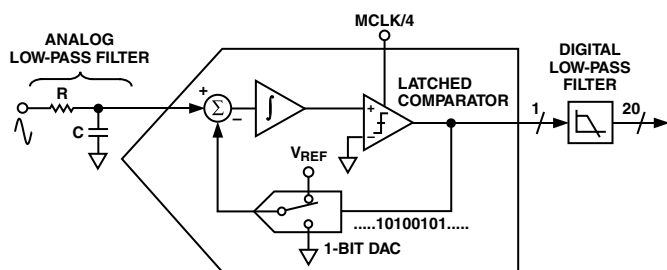
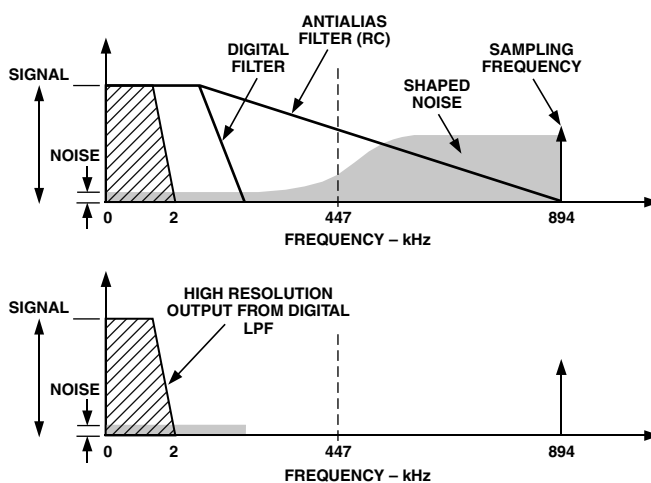
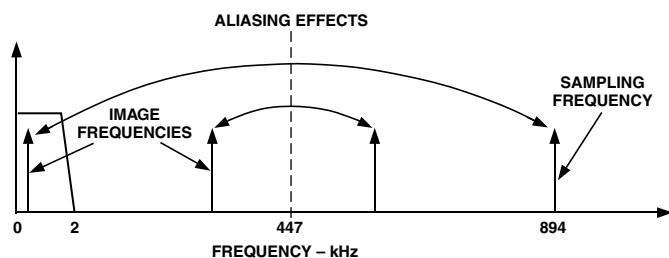

Figure 19. First Order Sigma-Delta ( $\Sigma$ - $\Delta$ ) ADC
Figure 20. Noise Reduction Due to Oversampling and Noise Shaping in the Analog Modulator
Figure 21. ADC and Signal Processing in Channel 1
The analog-to-digital conversion in the ADE7759 is carried out using two second-order sigma-delta ADCs. The block diagram in Figure 19 shows a first-order (for simplicity) sigma-delta ADC. The converter is made up of two parts, first the sigma-delta modulator and second the digital low-pass filter.
the signal is sampled at a rate (frequency) that is many times higher than the bandwidth of interest. For example, the sampling rate in the ADE7759 is CLKIN/4 (894 kHz) and the band of interest is 40 Hz to 2 kHz. Oversampling has the effect of spreading the quantization noise (noise due to sampling) over a wider bandwidth. With the noise spread more thinly over a wider bandwidth, the quantization noise in the band of interest is lowered—see Figure 20. However, oversampling alone is not an efficient enough method to improve the signal-to-noise ratio (SNR) in the band of interest. For example, an oversampling ratio of 4 is required just to increase the SNR by only 6 dB (one bit). To keep the oversampling ratio at a reasonable level, it is possible to shape the quantization noise so that the majority of the noise lies at the higher frequencies. This is what happens in the sigma-delta modulator: the noise is shaped by the integrator, which has a high-pass type response for the quantization noise. The result is that most of the noise is at the higher frequencies, where it can be removed by the digital low-pass filter. This noise shaping is also shown in Figure 20.
Figure 19 also shows an analog low-pass filter (RC) on the input to the modulator. This filter is present to prevent aliasing. Aliasing is an artifact of all sampled systems. Basically, it means that frequency components in the input signal to the ADC that are higher than half the sampling rate of the ADC will appear in the sampled signal at a frequency below half the sampling rate. Figure 21 illustrates the effect. Frequency components above half the sampling frequency (also known as the Nyquist frequency, i.e., 447 kHz) get imaged or folded back down below 447 kHz. This will happen with all ADCs regardless of the architecture. In the example shown, it can be seen that only frequencies near the sampling frequency (894 kHz) will move into the band of interest for metering, i.e., 40 Hz–2 kHz. This allows us to use a very simple LPF (low-pass filter) to attenuate these high frequencies (near 900 kHz) and to prevent distortion in the band of interest. For a conventional current sensor, a simple RC filter (single pole) with a corner frequency of 10 kHz will produce an attenuation of approximately 40 dB at 894 kHz—see Figure 20. The 20 dB per decade attenuation is usually sufficient to eliminate the effects of aliasing for a conventional current sensor.